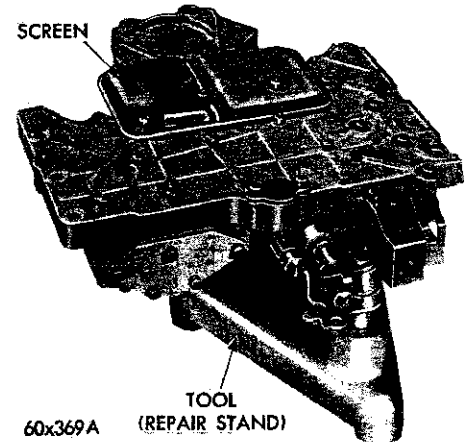

Fig. 53—Removing or Installing Oil Screen
(1) Place the valve body assembly on a repair stand, Tool C-3749 (Fig. 53). Remove three screws from the oil screen and lift off the screen.
(2) While holding the spring retainer bracket firmly